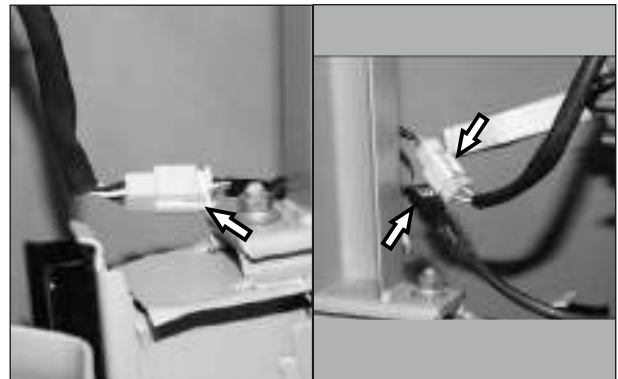

Fig. 5.84
- Disconnect rear combination lamp LH coupler from wiring harness rear. (Fig. 5.84)
- Disconnect rear combination lamp RH coupler and lamp assembly license plate coupler from wiring harness rear. (Fig. 5.84)